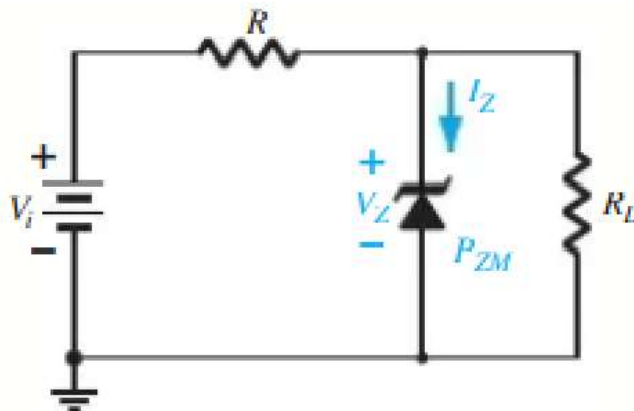
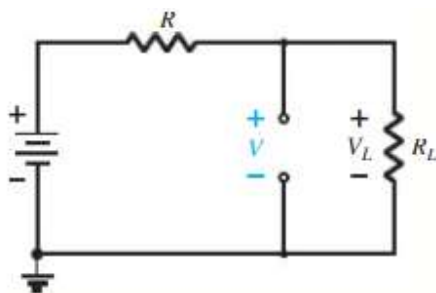
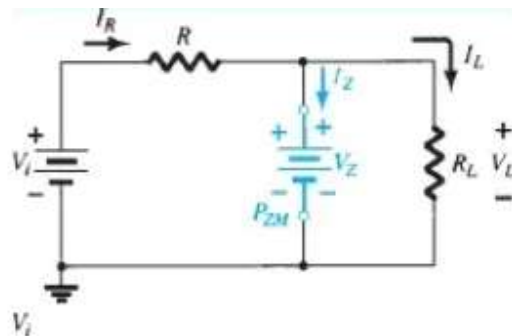

Fig: 43
Fig: 44
Fig: 45
The analysis of Zener diode as a voltage regulator is considered using the basic circuit shown in Fig. 43. With response of the Zener diode to different operating conditions. The analysis is first for fixed quantities followed by a fixed supply voltage and a variable load and finally a fixed load with a variable supply.
The simplest of Zener diode regulator networks appears in Fig. 44. The applied dc voltage is fixed, as is the load resistor. The analysis can fundamentally be broken down into two steps.
1. Determine the state of the Zener diode by removing it from the network and calculating the voltage across the resulting open circuit. Applying step 1 to the network of Fig. 43 results in the network of Fig. 44, where an application of the voltage divider rule results in eq. (1).
2. Substitute the appropriate equivalent circuit and solve for the desired unknowns. For the network of Fig. 43, the "on" state will result in the equivalent network of Fig. 45.